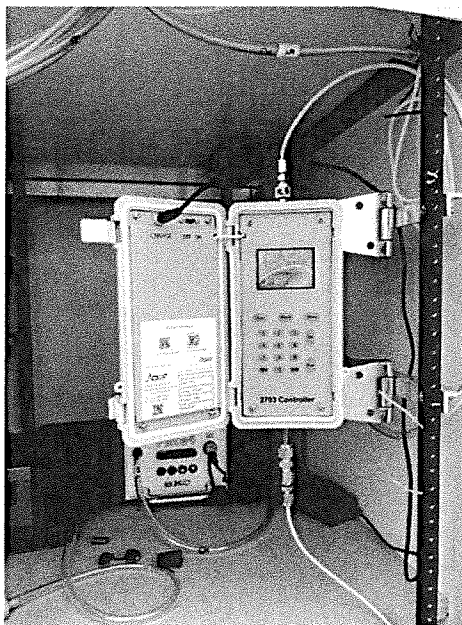

Figure 4: Nutech 2703 controller inside of the Shelter One enclosure.
- Nutech 2703 controller (located at sampling site in a Shelter One enclosure shown in Figure 4)